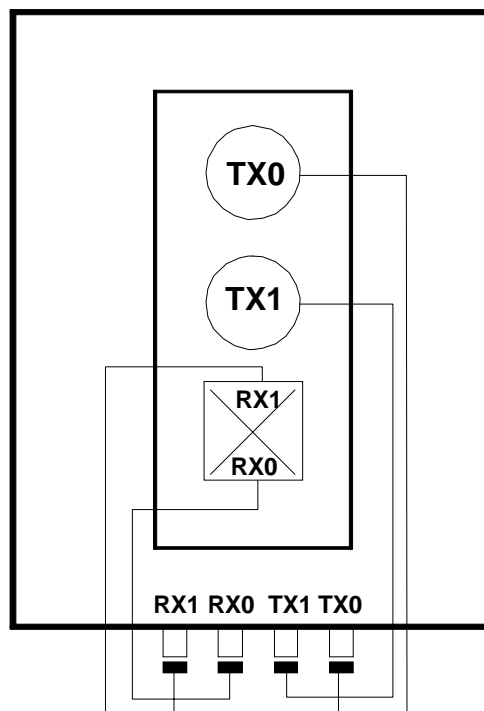

Fig. 2.7. Antenna connections (BiTRX internal antenna)
- Tighten the four male type N connectors (which are connected to the antenna) to the RF connectors placed in the BTSE as shown in Fig. 2.7.